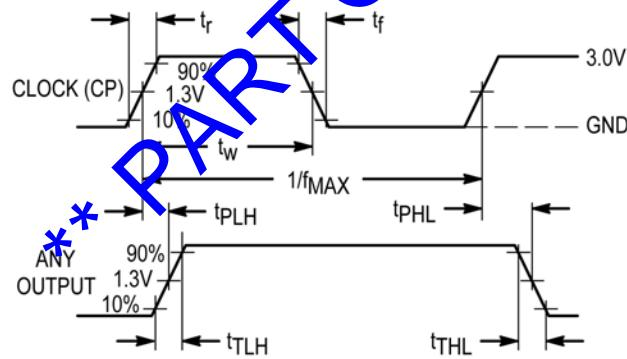

Figure 1 – Propagation Delay & Clock Timing, Clock to Output
The count is either enabled or disabled by the control inputs according to Figure 1. In general, P Enable (PE) is a count-enable control; T Enable (TE) is both a count-enable and a Ripple-Carry Output control.